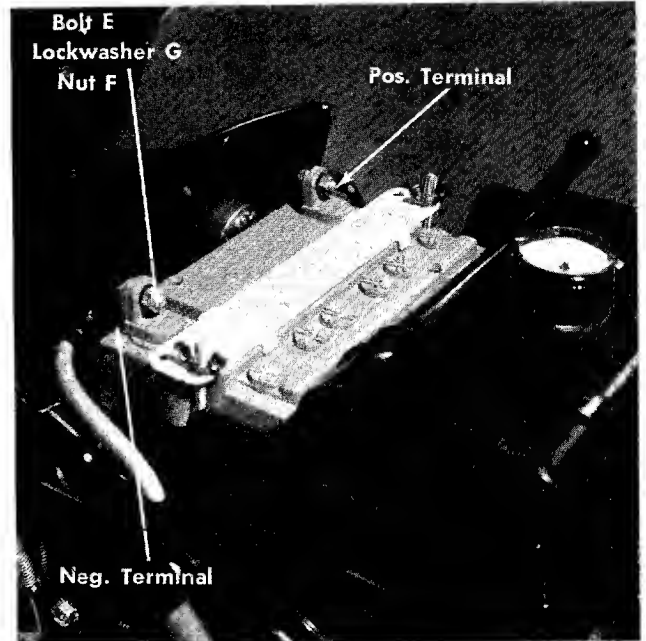

FIGURE 7.
- Step 4. Attach the positive cable (from the starter solenoid) and the small wire (from the ammeter) to the positive battery terminal with the bolt "E", lockwasher "G" and nut "F" in the assembly pack. (See figure 7.)